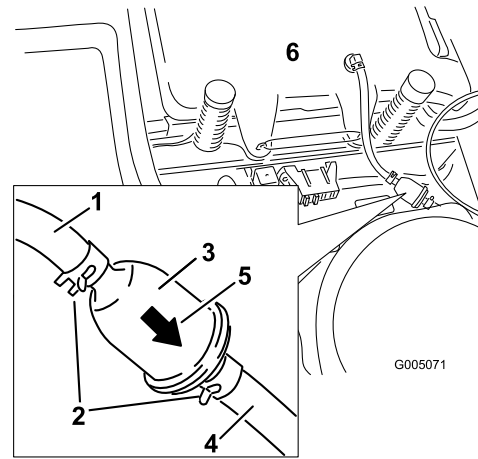

Figure 29
4. Squeeze the ends of the hose clamps together and slide them away from the filter (Figure 29).
6. Install a new filter with the flow direction arrow coming from the fuel tank and pointing to the engine. Move the hose clamps close to the filter (Figure 29) to secure it in place.